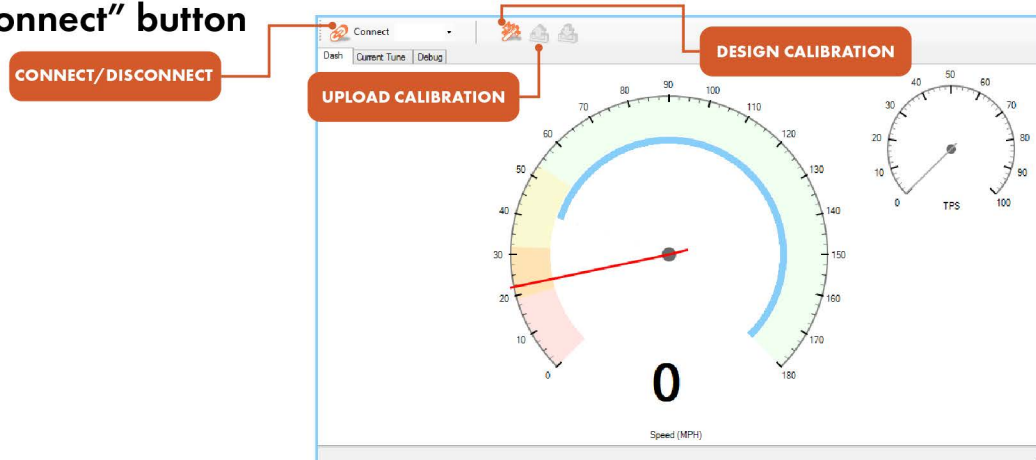

FIGURE 1
2. When you open the software you will see the screen as pictured below in Figure 1
2. Click on the "Design Calibration" as shown in Figure 1